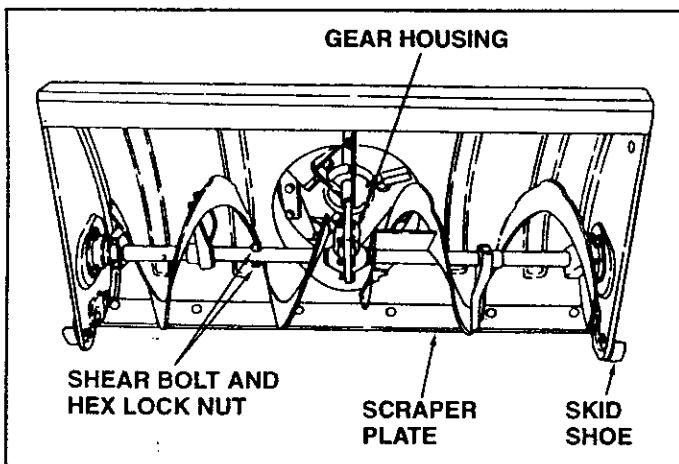

FIGURE 21
(Refer to figures 21 and 22 on page 16.)
- If the augers will not turn, check to see if the shear bolts have sheared. See figure 21. Two replacement shear bolts and hex lock nuts have been provided with the snow thrower. For future use order part number 710-0891 shear bolt and number 43064 hex lock nut.